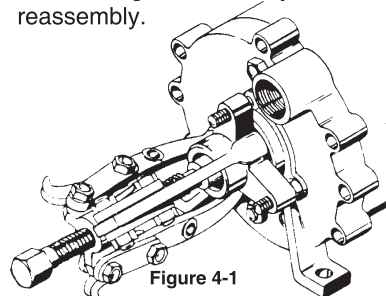

Figure 4-1
- The bearing arm (#3B) may now be removed. A gear puller may be necessary. (refer to figure 4-1) The outboard ball bearing (#24B) will now be exposed. Locate the tab on the bearing lock washer (#39B) which is holding the bearing lock nut (#38B) in place. Bend this tab straight by prying underneath it with a screwdriver or chisel. Once the tab has been lifted somewhat, use a pin punch or drift to tap the tab out of the slot in the bearing lock nut (#38B). Using a spanner wrench or punch, loosen and remove the bearing lock nut (#38B). Slide the lock washer from the shaft. The outboard ball bearing (#24B) should now be removed. A gear puller will have to be used for this operation. If the bearing can be removed too easily, a worn bearing surface may be indicated. Replace the shaft and bearing as necessary before reassembly.